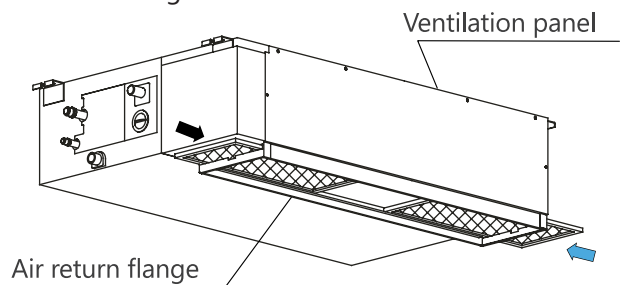

Fig. 3-3: Replace The Air Return Flange
4. When installing the filter mesh, fit it into the flange as illustrated in Fig. 3-3.